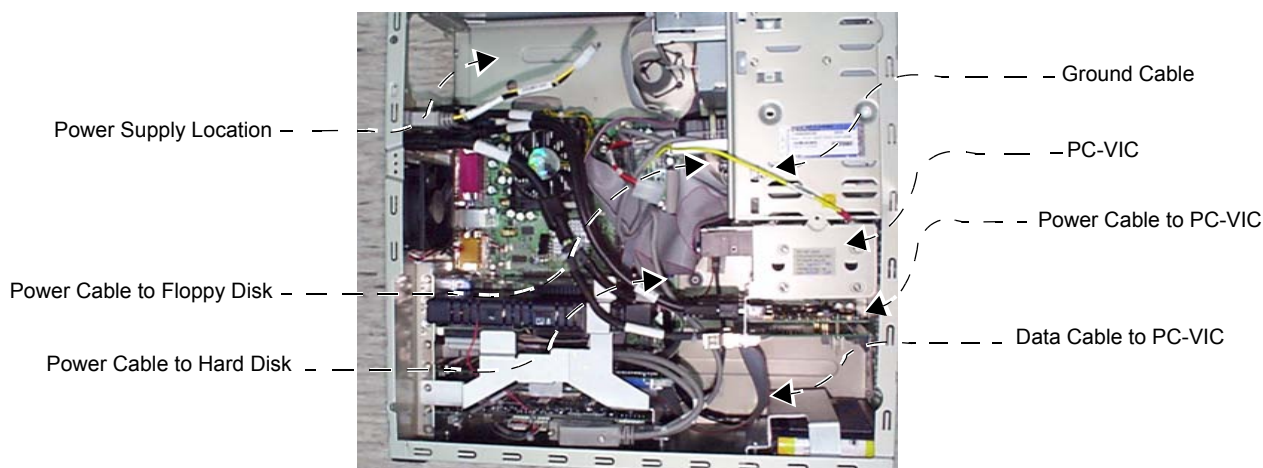

Figure 8-65 BEP2 Power Supply Location
- 3.) Slide the power supply into the BEP power supply location (see Figure 8-65 below) and push the metal stabilizing bracket (located on the side of the power supply) *downwards* to hold the power supply in position.
- 6.) Re-connect the power cable to the Floppy Disk (labelled [D] in Figure 8-64); refer also to Figure 8-65, above.
- 7.) Slide the PC-VIC & hard disk out sufficiently to be able to re-connect the power cable (labelled [E] in Figure 8-64) to the PC-VIC; refer also to Figure 8-65, above.
- 8.) Re-connect the data cable to the PC-VIC (see Figure 8-65, above).
- 9.) Re-connect the power cable to the Hard Disk (labelled [F] in Figure 8-64); refer also to Figure 8-65, above.